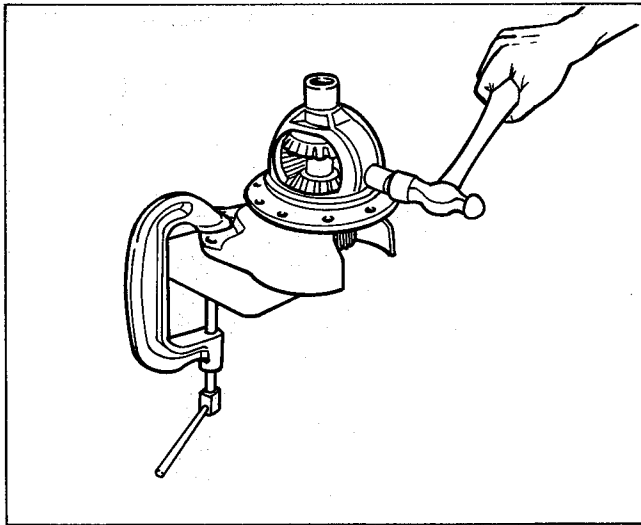
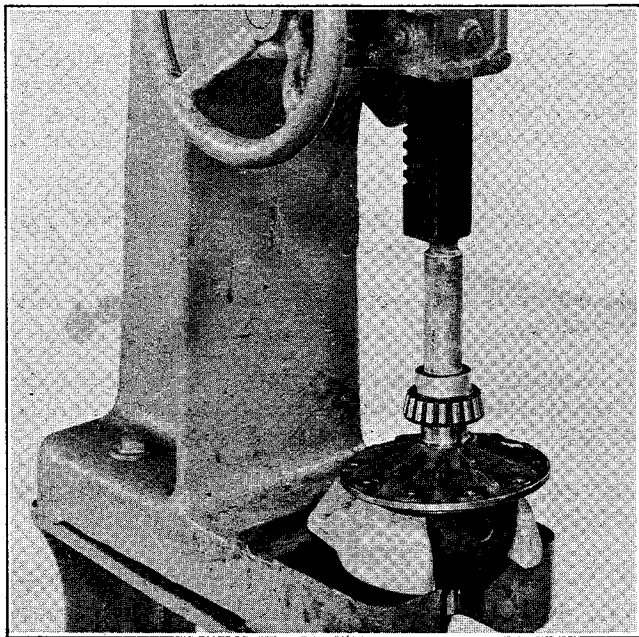

Figure 2-10. Peening Case Over Top of Pin
Figure 2-11. Pressing Bearing Cone On
lock pin (9). Peen case metal over top of pin to lock in place (see Figure 2-10).
4. Install drive gear (13) with screws (12). Torque screws to 45 ft.-lbs.
5. Position under arbor press. Press on differential bearing cones (8) without shims (11). Use press tool similar to one shown in Figure 2-11.